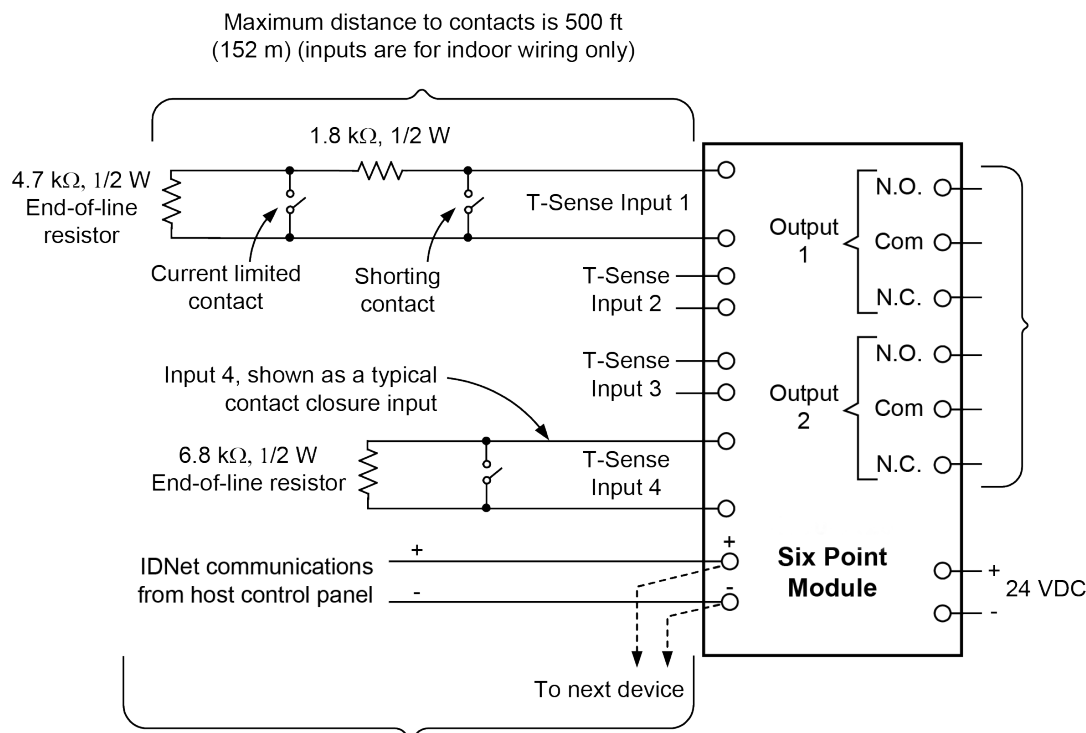

Fig 2: Wiring information
- A4090-9120 Six Point Model is illustrated in Figure 2